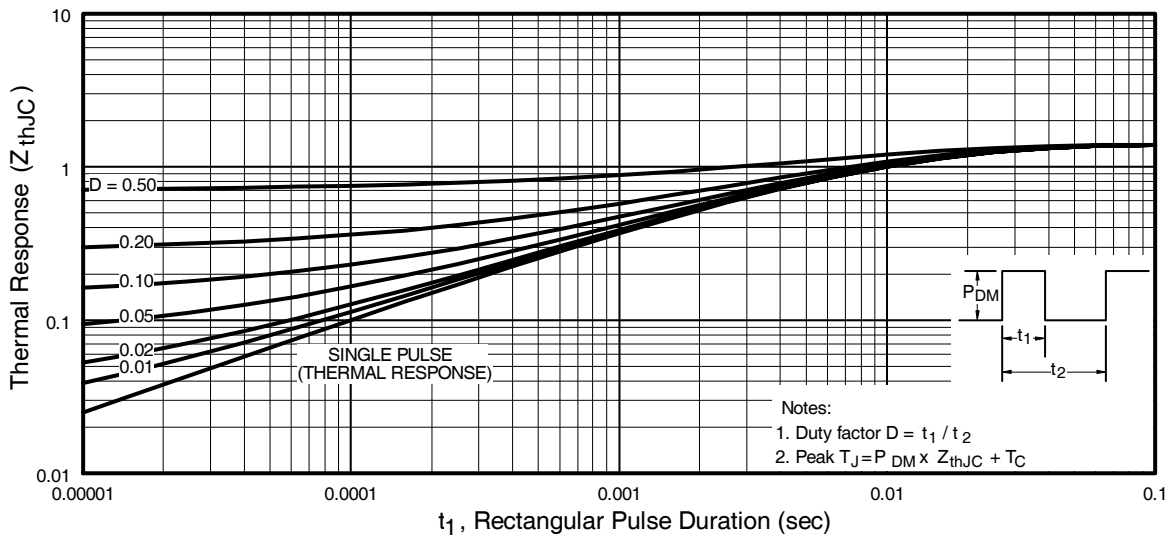

Fig 11. Maximum Effective Transient Thermal Impedance, Junction-to-Case
- ① Repetitive rating; pulse width limited by max. junction temperature. (See fig. 11)
- ② Starting $T_J = 25^\circ\text{C}$, $L = 0.48\text{mH}$